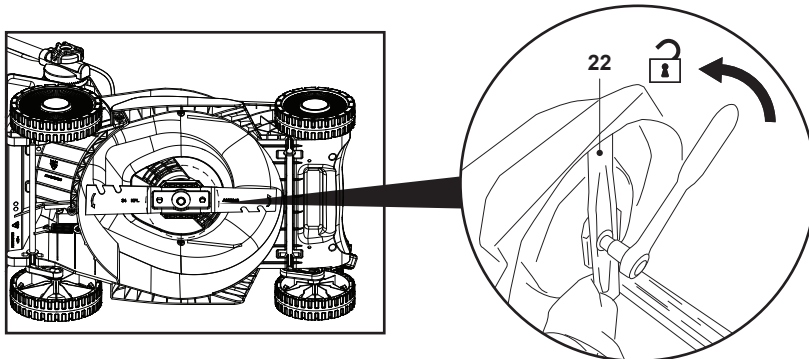

Fig. 21
NOTE: If a hand tool wrench or spanner is used instead of an electric impact wrench, the cutting blade (22) should be prevented from rotating while loosening the bolt. Wear heavy-duty gloves and grip the blade firmly. Use a good-size piece of wood to block the rotation of the blade if necessary (Fig. 21).